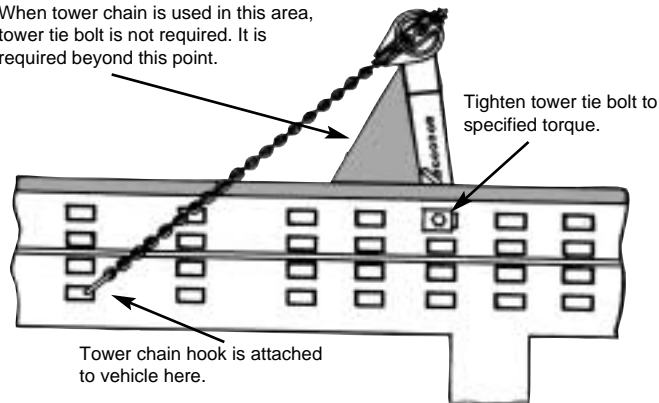

Figure 27
- Pull from side of tower exceeds 22.5 degree angle from tower arm. (See Figure 27.) This situation does not necessarily force tower up or down, but instead causes tower to twist.